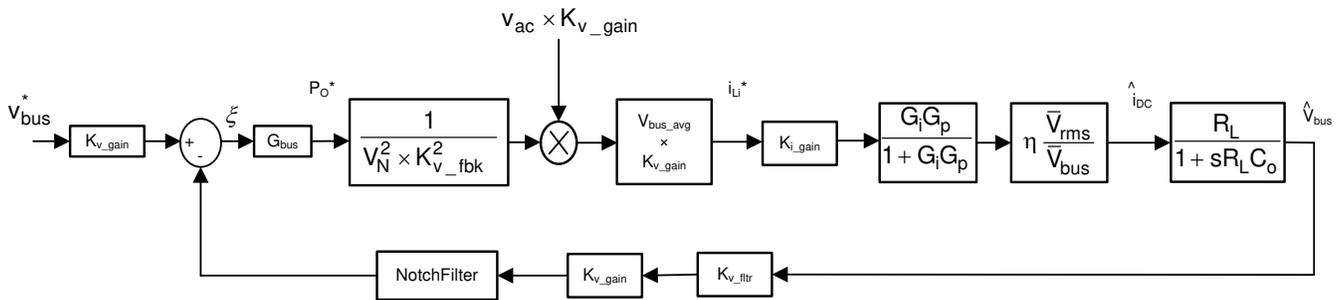

Figure 2-11. DC Voltage Loop Control Model
The DC voltage regulation loop control model can be drawn as shown in Figure 2-11. An additional Vbus feedforward is applied to make the control loop independent of the bus voltage, and hence, the plant model for the bus control can be written as Equation 6.
Using Figure 2-11, a proportional integrator (PI) compensator is designed for the voltage loop. The bandwidth of this loop is kept low as it is in conflict with the THD under steady state.